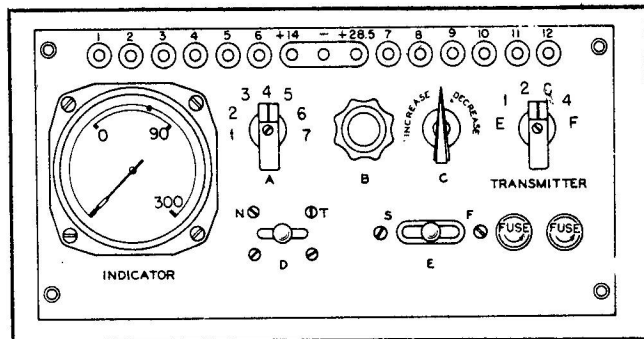

Figure 3-2. Designations of Panel Components
**3-15. GENERAL.** (See figure 3-2.)